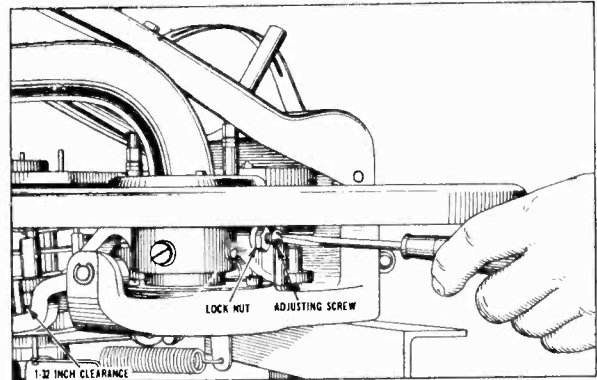

Fig. 2—Adjusting Sound Box Lift Lever
Loosen the lock nut and adjust the sound box lift lever adjusting screw as shown in Fig. 2 until there is a clearance of approximately $\frac{1}{32}$ " between the under side of the taper tube arm casting and the top of the sound box lift lever as shown. This clearance can be checked by placing a thin piece of cardboard between the two points and observing whether or not there is a dragging on the cardboard when the tone arm is moved toward the center of the record. *This clearance is highly important and will affect other conditions of the mechanism if not properly adjusted.*
2. EXCESSIVE WEAR ON RECORDS—If excessive wear on the records is noted, the same adjustments as described in subject 1 above should be made. It may be possible that the needle will move into the record groove after striking the smooth outside rim, but will cause excessive wear on the record due to a slight contact between the two points shown in Fig. 2 where the $\frac{3}{2}$ " clearance should exist.
- b. If the condition is still not corrected, particularly if there seems to be a sluggish action of the return of the tone arm, remove the sound box lift lever spring shown in Fig. 2, and increase its tension by shortening the straight section of the spring, bending it nearer the coiled section.